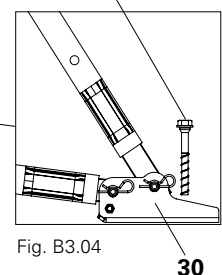

Fig. B3.04
2. Mount base plate-3 for RS 210 – 1400 (30) on the push-pull prop and kicker brace. (Fig. B3.04)
3. Fasten base plate-3 for RS 210 – 1400 (30) on a load-bearing surface, e.g. with PERI anchor bolt 14 / 20 x 130 (30.1), art. no. 124777. Take the Technical Data Sheet into consideration! (Fig. B3.04)
4. Fix push-pull props to the base plate with bolts, and secure bolts with cotter pins (27.4). (Fig. B3.04)